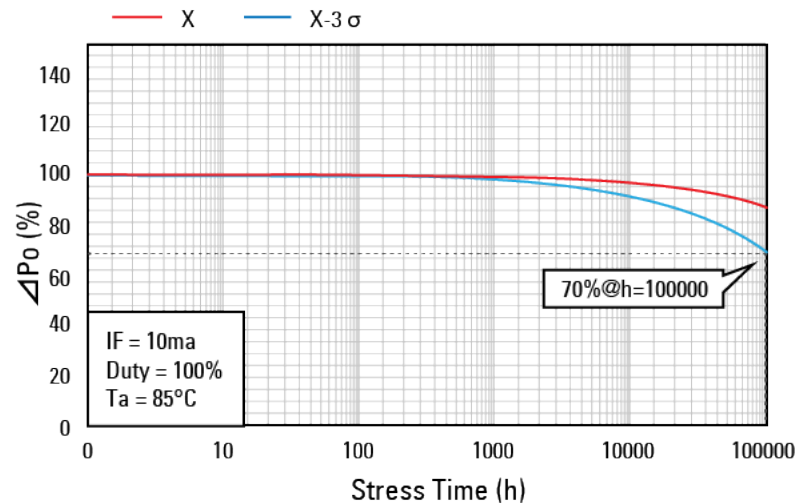

Fig. 1 GaAs LED projected light output degradation data
Derive α1 from the related (X)–3σ curve (e.g. Fig. 1).